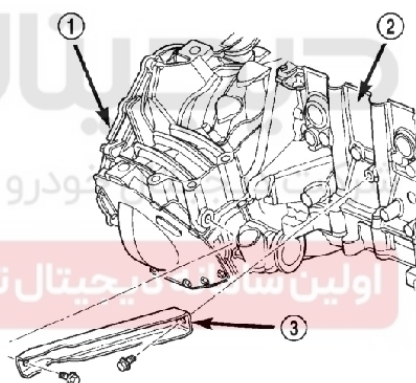

Figure 3-31 Disassembly/assembly of right horizontal curved bar — typical
- (17) Take down the horizontal curved bar for right engine and transaxle (Figure 3-31).